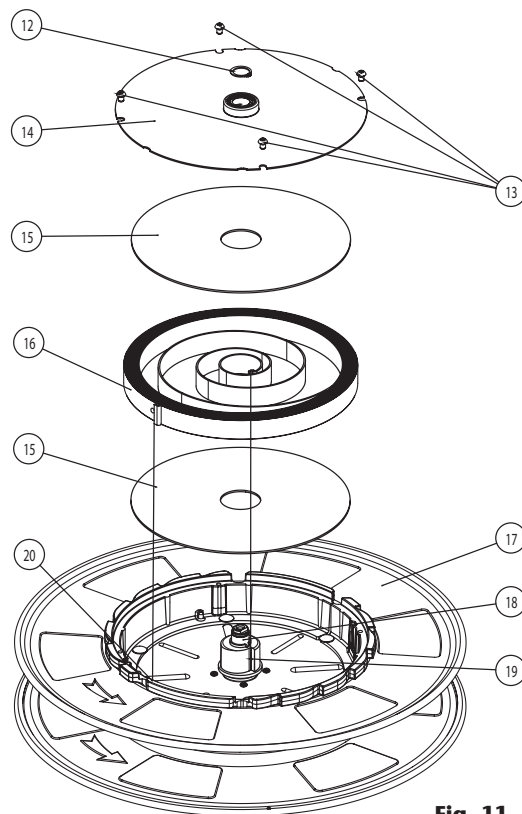

Fig. 11
7. With the spool lying flat, remove the circlip (12) (fig. 11) from the shaft. Next, loosen the bolts (13). Carefully lift up the power spring cover (14) which will come out with the bearing, all together. Take apart the silencer disc (15), and finally disassemble the power spring (16). Be careful to avoid remove the spring fixation (19) which could be slightly held to the power spring.
9. Apply a light coat of grease inside the spring case and cover. Carefully install the new power spring. Be sure, the power spring hooks are aligned with the spool (20) (fig. 11) and spring fixation (19) (fig. 14) hooks.
10. Once the power spring is in the case, assemble the silencer disc (15) (fig. 11) and the lid (14) (fig. 11).
11. Be sure the cover is aligned with the adjacent piece (the slots must be aligned). Then, fasten the lid with the bolts (13) (fig. 11).
12. After placing the lid, assemble the circlip (12) (fig. 11) and then, place the spool assembly on the hose reel frame.